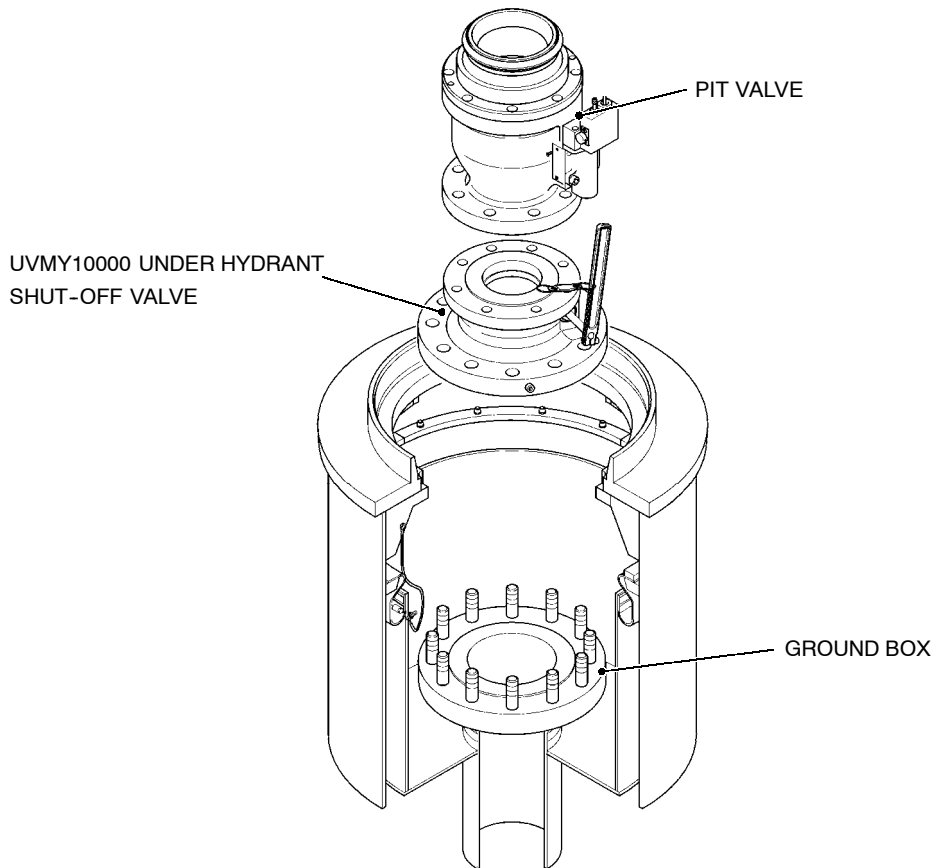

Fig 1.1 Under Hydrant Valve Installation
2.1 The Under Hydrant Shut-off Valve is installed between the ground box flange and the Pit Valve. (See Fig. 1.1)